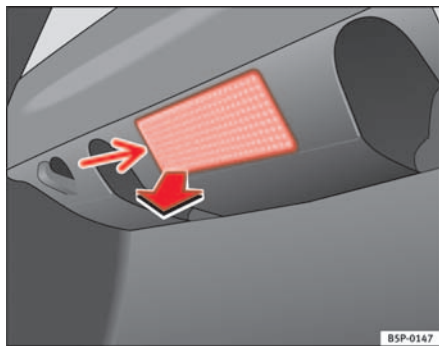

Fig. 168 Luggage compartment light
- Extract the tulip shaped fitting by pressing on the inside edge of this -arrow- using the flat side of a screwdriver ⇒ fig. 168.